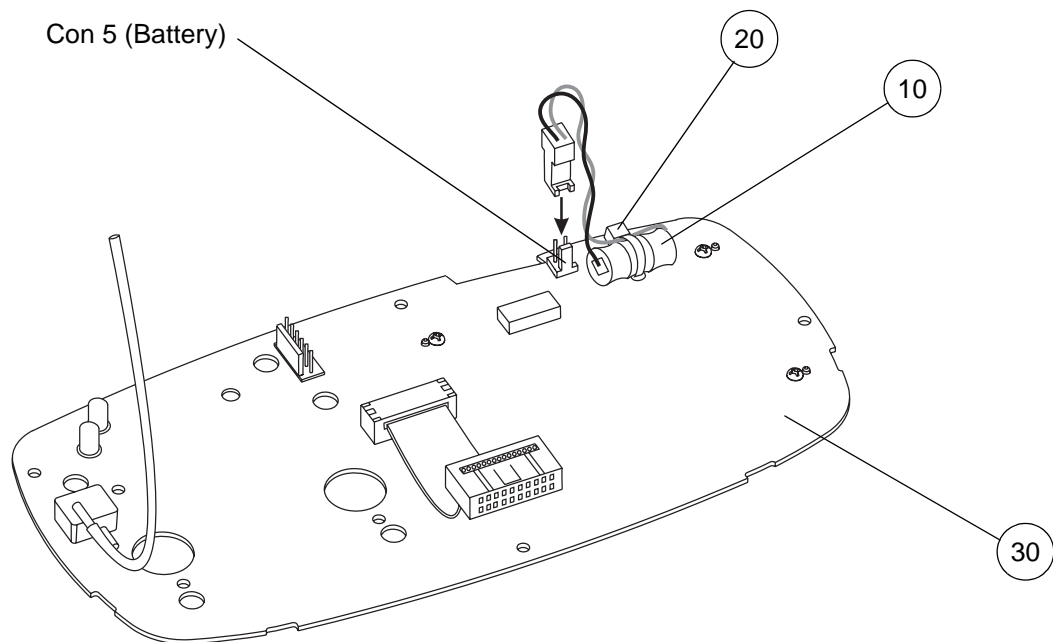

Figure 57 - Replacing the Rechargeable Battery
- 35.2 Cut and remove the cable tie (Fig 57, Item 20) which secures the battery (Fig 57, Item 10) to the control PCB assembly (Fig 57, Item 30), and move the battery a small distance away.
- 35.3 Put the new battery (Fig 57, Item 10) onto the control PCB assembly, adjacent to the old battery.
- 35.4 Secure the new battery to the control PCB assembly with a new cable tie (Fig 57, Item 20).
- 35.5.1 Disconnect the 2-pin battery cable connector from the battery connector on the control PCB assembly (Fig 57, PCB Con 5), and remove the battery.